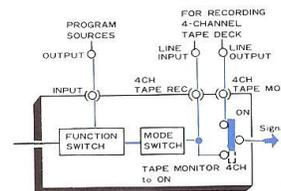

Fig. 22
- 4-channel Tape Recording:** The FUNCTION switch selected program source appears at the 4CH TAPE 1, 2 REC (DOLBY NR ADAPTOR OUT) terminals on the rear panel according to the MODE switch setting. Perform recording procedures according to the selected program source(Fig. 22).